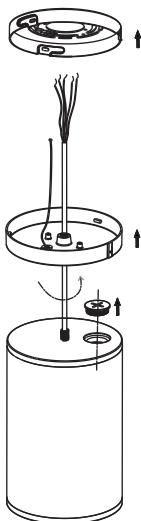

fig. 1
1. Detach the ceiling mounting plate from the fixture mounting canopy. Unscrew the fixture plate from the center nipple. Unscrew the knockout cover to access settings if desired. (Figure 1)